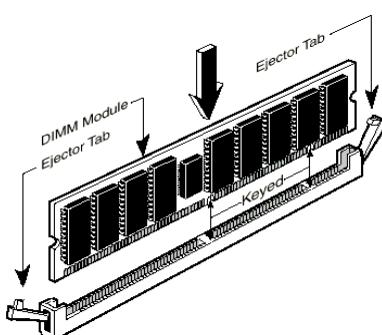

Figure 2-6. Memory module installation
Step 5. Insert the DIMM module into the expansion socket as shown in the illustration. Note how the module is keyed to the socket. You can refer to Figure 2-6 for the details. ***This insures***